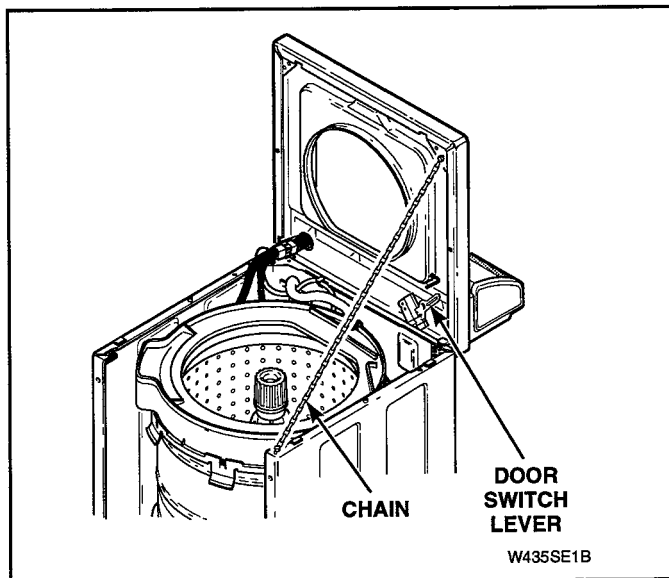

Figure 5-22
**NOTE:** Cabinet top is self-supporting, however, a small chain may be used for additional support. See Figure 5-22.
**NOTE:** Cabinet top is self supporting, however, a small chain may be used for additional support. See Figure 5-22.